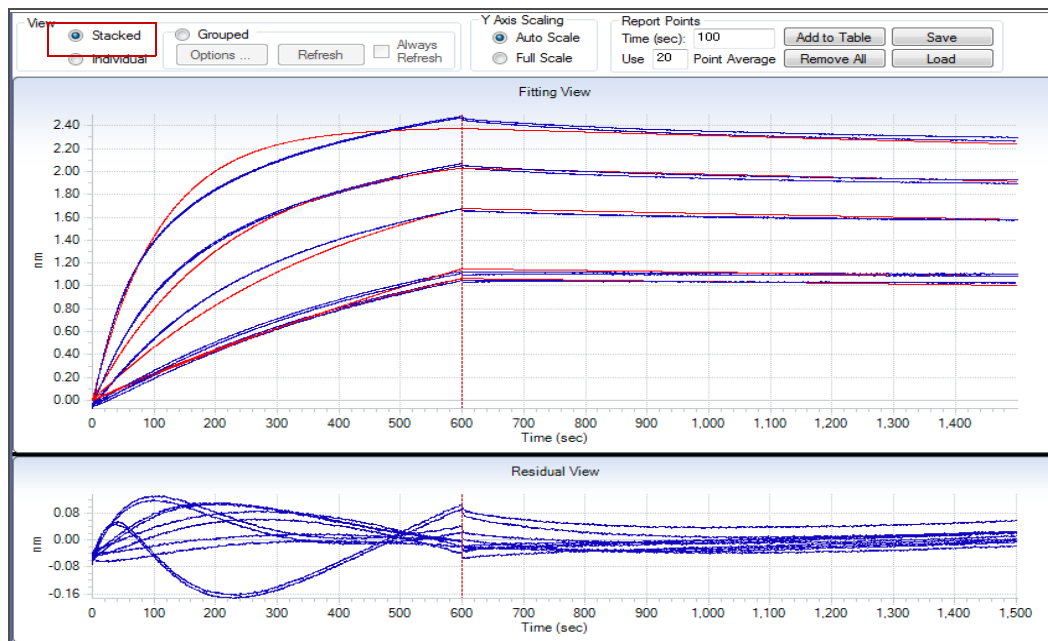

Figure 5-42: Fitting View and Residual View—Stacked Option
When the analysis is completed, the fitting view displays the processed binding data and the fitted binding curve (red) for all analyzed biosensors (Figure 5-42). The residual view displays the difference between the raw binding data and the fitted curve for all analyzed biosensors. For more details on graph options, see “Working with Graphs” on page 142.
NOTE: In Figure 5-42, a local, full fitting analysis was applied to the data. (For detailed information on graph display options, see “Step 6: Viewing Results” on page 106.)
- **Stacked**—Displays the binding curves of all ligand biosensors in one graph (Figure 5-42).